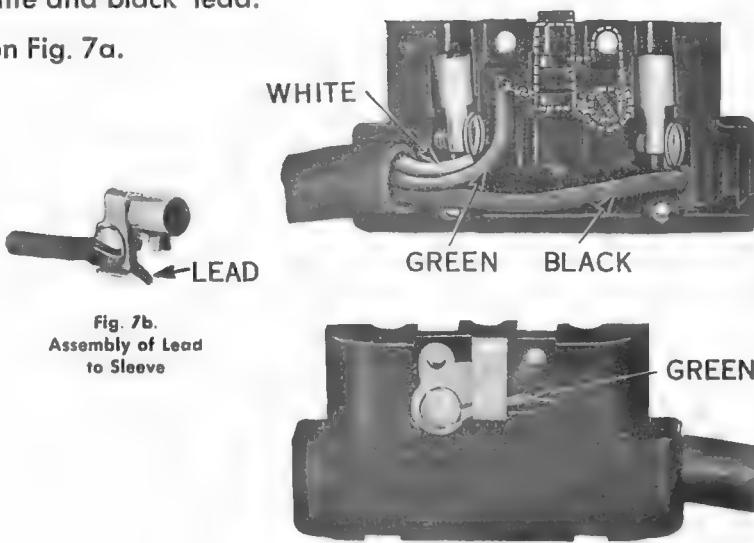

Fig. 7b.
7. Fasten the two outside terminal sleeves to the black and white leads by sliding stripped end of lead between the two sides of sleeve, directly under fastening screw, and tightening screw, see Fig. 7b.